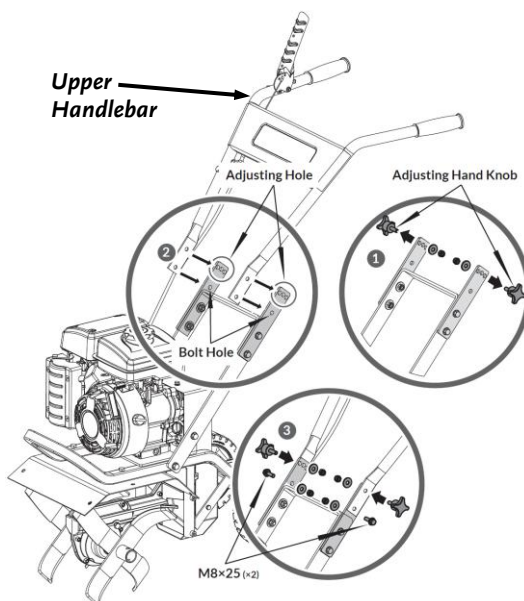

Figure 8
5. Remove the two Adjusting Hand Knobs, Flat Washers and Nuts from the Handlebar Adjusting Plates (**Figure 8**).